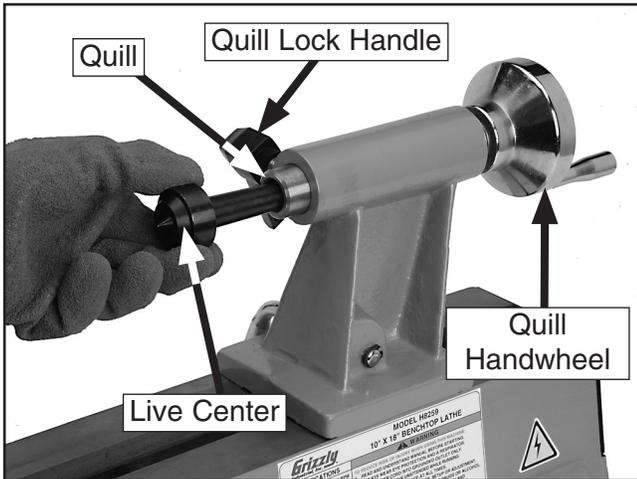

Figure 17. Installing live center in tailstock.
3. Insert the live center, as shown in **Figure 17**, and push firmly.